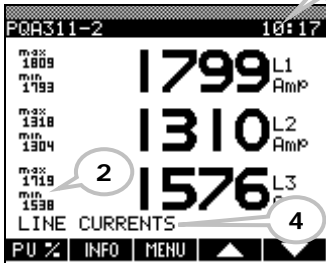

Figure 9: Typical Numeric Display
- Numeric display, comprising three large-set numbers with their minimum and maximum values (Figure 9).